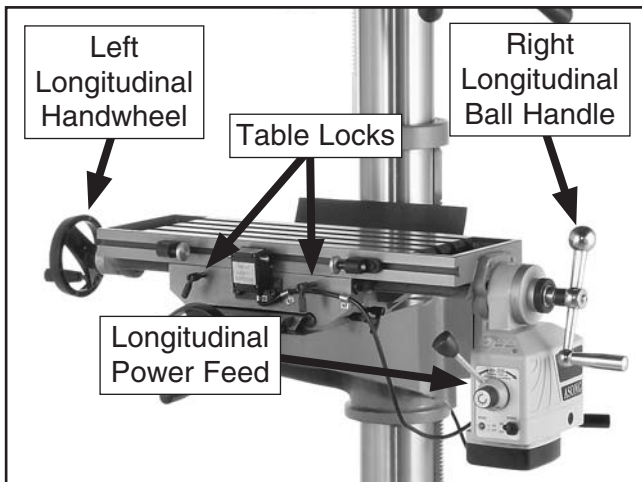

Figure 19. Longitudinal table movement controls.
1. Loosen the two table locks shown in **Figure 19**.